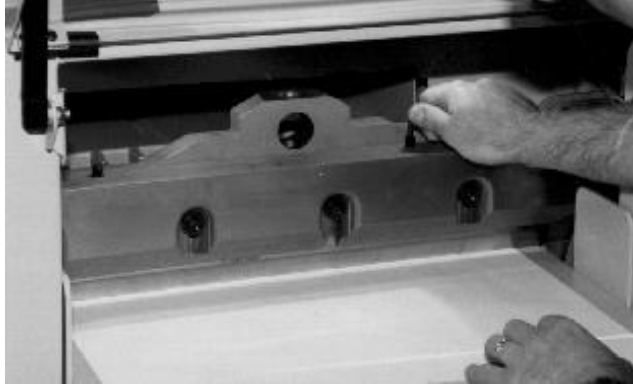

Figure 44
13. Turn the knife adjusters down evenly, a little at a time, until the knife cuts through the bottom sheet of paper the entire length of the cutting stick (Figure 44). Turning the screws down evenly prevents uneven wear on the knife and cutting stick.